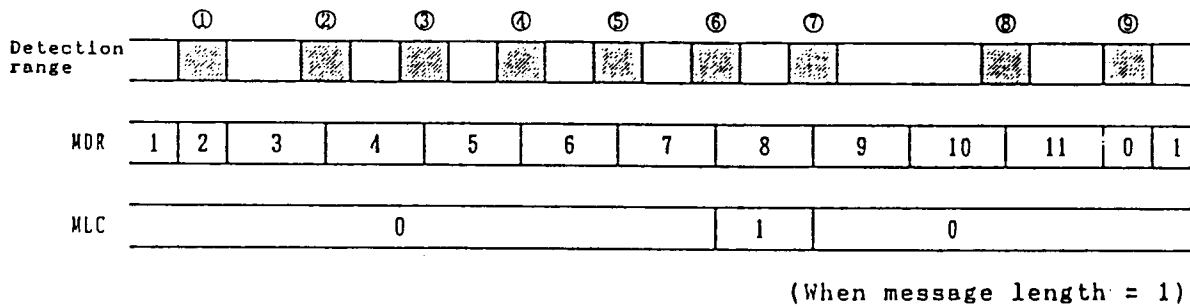

Figure 3.2 Start bit detect position
- ① in Figure 3.2 is the period when the state counter is "2"
- ② through ⑧ in Figure 3.2 is the $-13 \mu\text{s}$ and $+26 \mu\text{s}$ period where the start bit should have been positioned
- ⑨ in Figure 3.2 is the period when the state counter is "0"
(for ② through ⑧ in Figure 3.2)